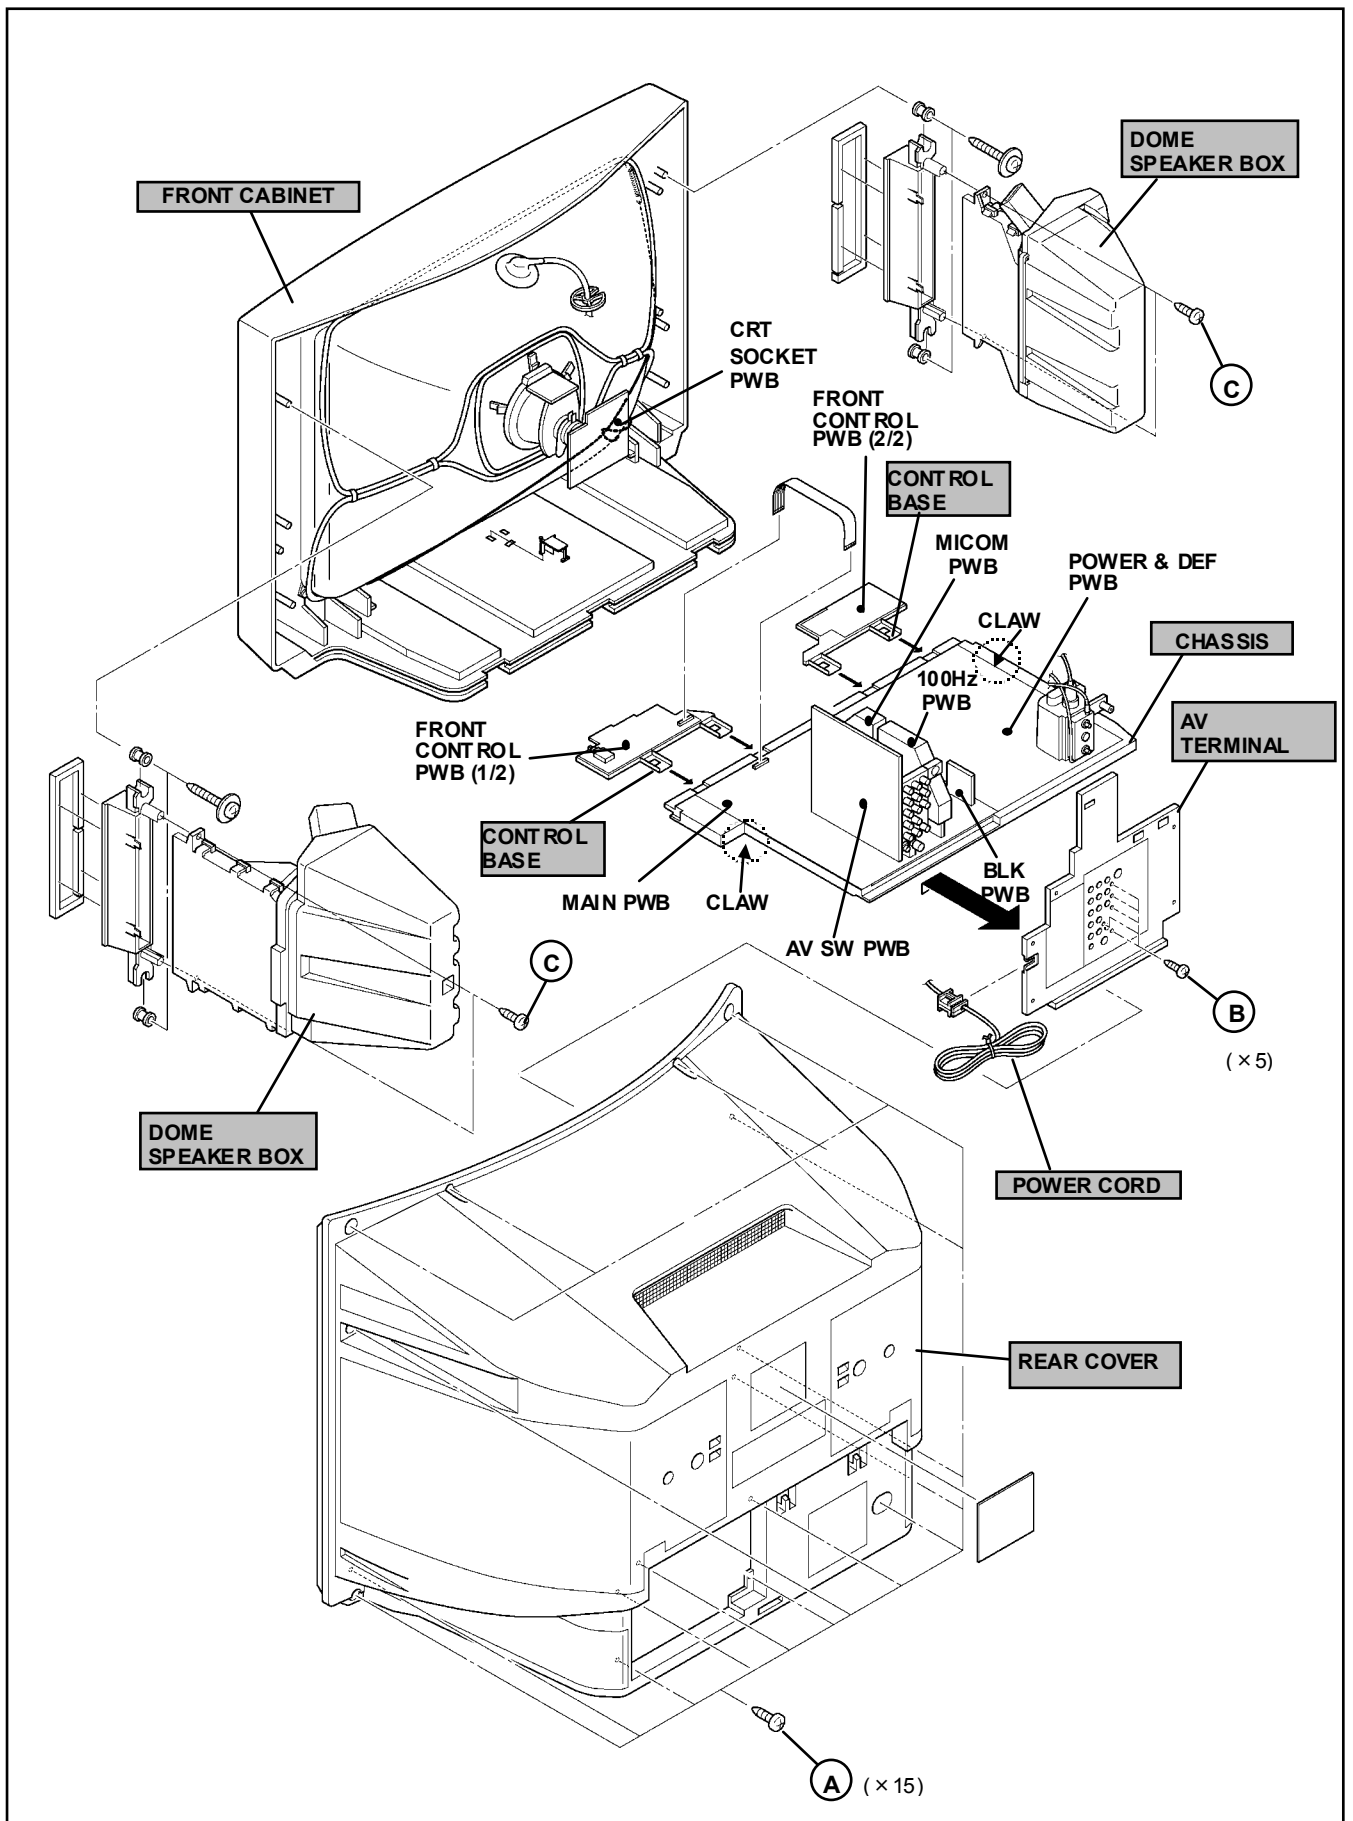

Fig. 1
1. As shown in Fig. 1, remove the 2 screws marked **(C)**, then remove the dome speaker box.